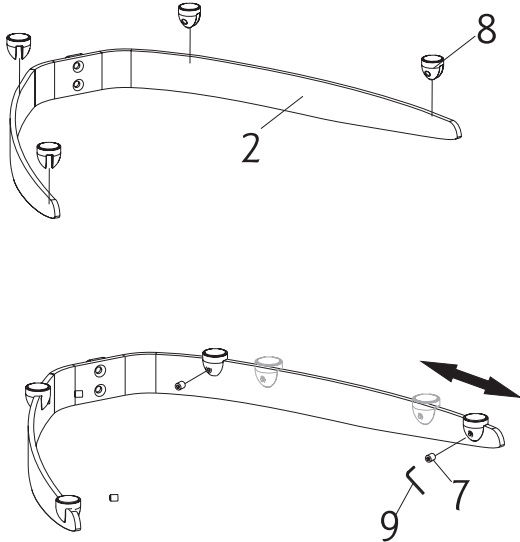

Fig. 1
Attach the Glass support Pads (8) to the Shelf Brackets (2) with Set Bolts (7). Use the 2.5x2.5mm Hex Wrench (9) to loosely tighten the Set Bolts (7). Next, slide the Glass Support Pads (8) into position as required (see Fig. 1). The position of the Glass Support Pads (8) can be adjusted to properly support all A/V equipment (22 Lbs maximum shelf capacity). After position adjustment, securely tighten all Set Bolts (7) in the Glass Support Pads to each Shelf Bracket using the 2.5mm Hex Wrench (9).